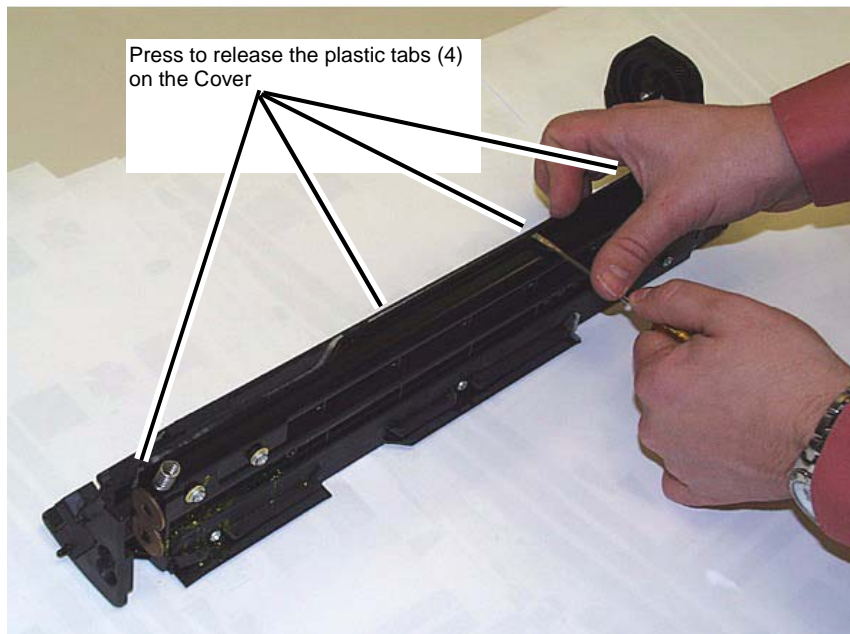

Figure 2 Removing the Developer Housing Cover
4. Unlatch the tabs on the Developer Housing Cover. (Figure 2)